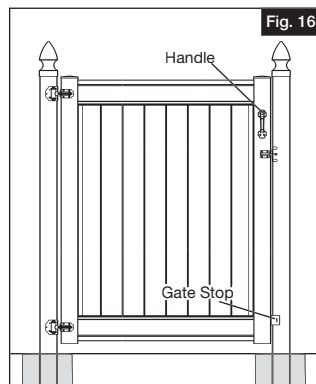

Fig. 16
- Add a Boerboel® gate handle and Boerboel® gate stop (sold separately) to prolong the life of your gate (Fig. 16).